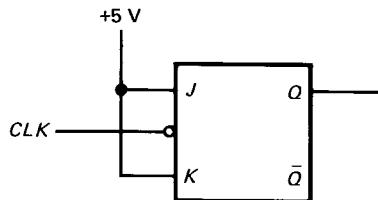

Fig. 7-19
- 7-4. The clock of Fig. 7-19 has a frequency of 1 MHz, and the flip-flop has a propagation delay time of 25 ns.
- 7-5. The clock has a frequency of 6 MHz in Fig. 7-19. What is the frequency of the Q output? This circuit is sometimes called a divide-by-2 circuit. Explain why.